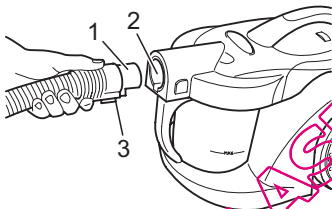

Fig. 2
1. Push the end of the suction hose (Fig. 2/1) into the socket opening (Fig. 2/2) of the cylinder vacuum cleaner until the lock audibly clicks into place. Make sure that the release button (Fig. 2/3) points down as illustrated.